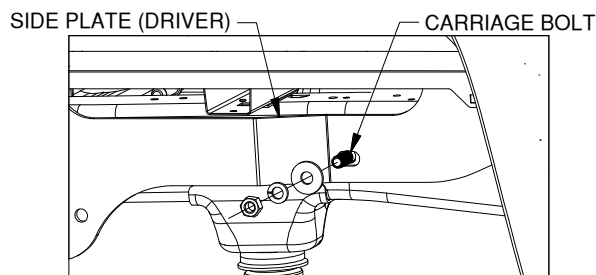

Figure D1: View looking into driver side wheel well.
- 1. Place side plates over carriage bolts.** Each side plate (driver and passenger side) will install over the carriage bolts previously placed into the frame. Attach each plate (driver side shown below) with 1/2" washers, 1/2" lock washers and 1/2" finish nuts, see Figure D1. Do not fully tighten at this time.